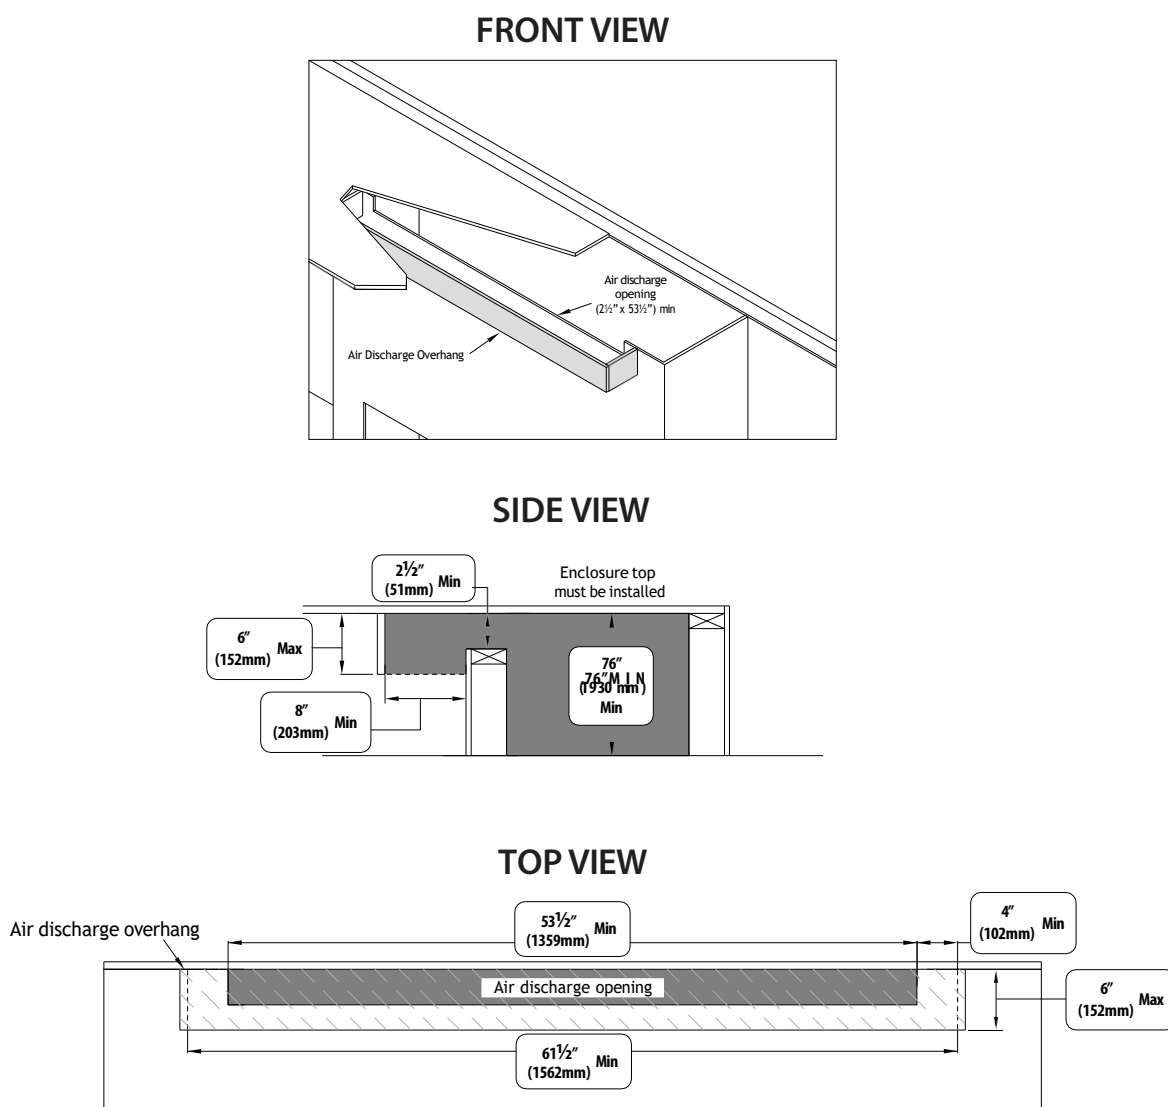

FIGURE 3.16 *Single Opening with Overhang*
- FIGURE 3.16 shows an alternative installation for the single opening vented cavity installation with an air discharge overhang in front of the air discharge opening. This installation method can provide a means to visually hide the air discharge opening.